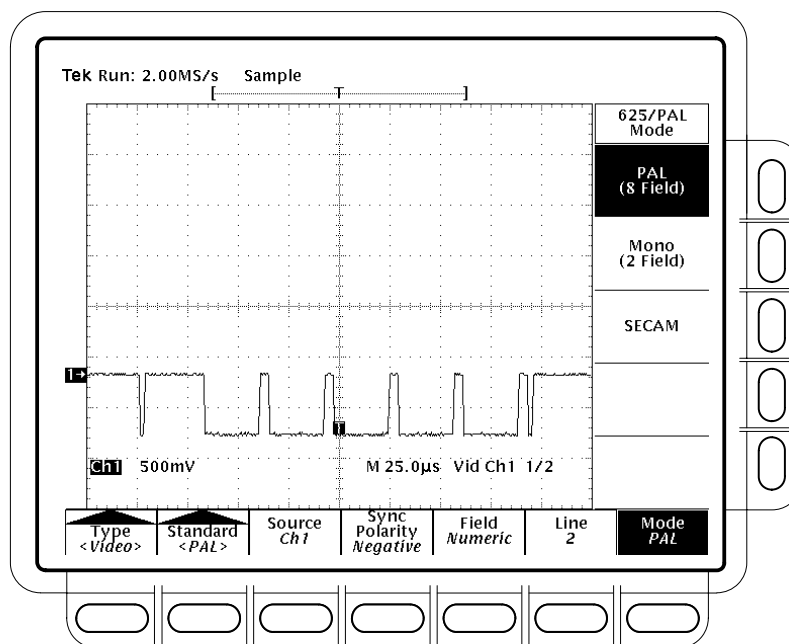

Figure 1–4: Video Trigger Menu — PAL Mode
1. Select the **Mode** item in the main menu (see Figure 1–4).
**Format** If you selected **HDTV** in the Standard menu, you can select the video format with this menu item. You can choose from **787.5/60**, **1050/60**, **1125/60**, or **1250/60** (see Figure 1–5).